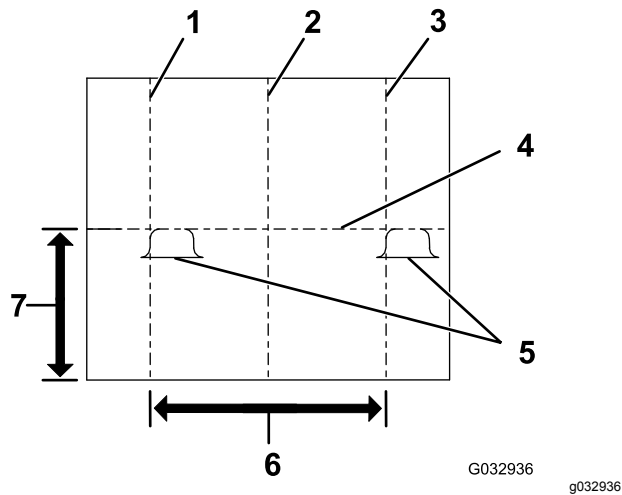

Figure 33
4. Mark the vertical vehicle centerline on the screen (Figure 33).
5. Mark the vertical headlight centerline on the screen (Figure 33).
6. Mark the horizontal headlight centerline on the screen (Figure 33).
7. Adjust the plow headlights until the brightest part of the plow low-beam lights are aligned as shown in Figure 33.